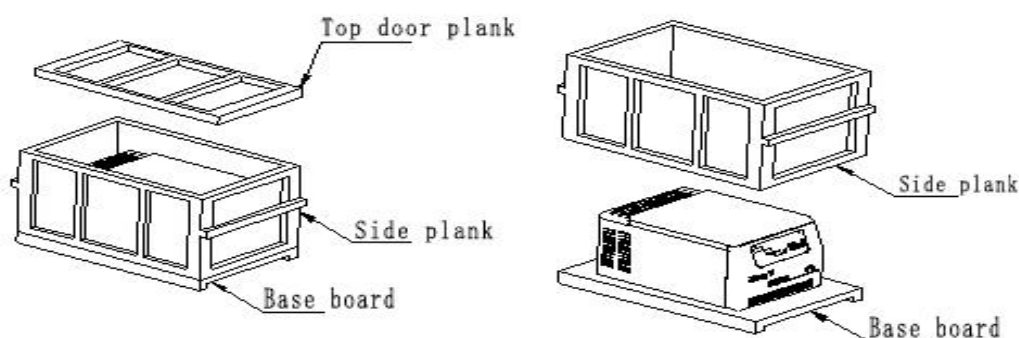

Figure 1.4-1 Unpacking Steps
- ◆ Unpacking package: Removing 8 pcs of M8 wooden screw on top door plank first (refer to Figure 1.4-1) and discharging the top door plank then, other side planks should be integrally unpacked after removing 4 or 6 pcs of M8 wooden screw on side planks. Take off the plastic cover, at last offload the main machine from packing baseboard and place it on the steady platform. Make four rubber cushions stand in balance. (This model usually is heavy, it is best to have three to four persons to moving it) At last, please take care of the package and packing materials to avoiding environment pollution.